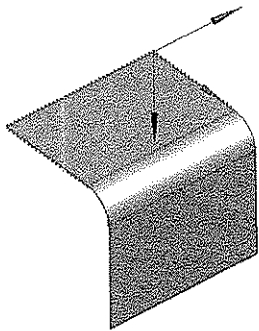

Figure 8-46 Preview of the work plane
2. Next, choose the **New Plane** tool from the **Active Plane/Sketch** toolbar to create a new plane on the selected face; the preview of the new plane is displayed on the model, as shown in Figure 8-46.